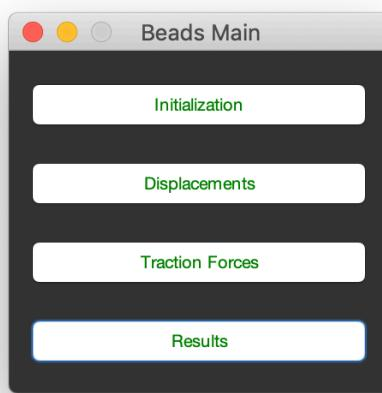

FIGURE 26 ONCE ALL THE STEP ARE COMPLETED, THE MAIN PANEL CAN BE CLOSE AND THE ANALYSIS IS FINISHED
5. Once the results are verified for each cell, the user select what additional data to save and proceed with *OK* to finalize the analysis. Finally, the main panel can be closed, and the analysis is finished (Figure 26).